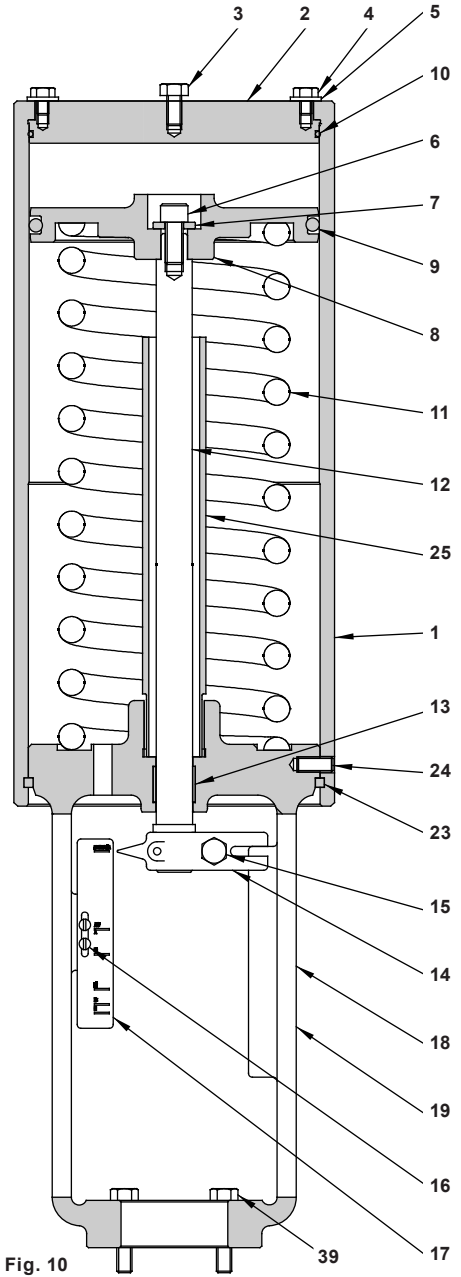

Fig. 10
- Insert the bushing guide (13) into the yoke (19).
- Apply graphite-based grease NEVER SEEZ PURE NICKEL SPECIAL on stroke limiter (25) threads.
- Screw the stroke limiter (25) into the yoke (19) until some mechanical resistance is felt and tighten with one hand using a short length of bar.
- Apply silicone-based grease LUMOMOLY TF-92 on stem (12) and insert into the yoke (19) from underneath.
- Introduce the spring (11) into the yoke (19).
- Apply silicone sealant DOW CORNING 732 at the end of the stem (12). See figure 10.
- Lock the stem (12) at the lower yoke end (19), with appropriate device.
- Apply graphite-based grease NEVER SEEZ PURE NICKEL SPECIAL on bolt (6) threads.
- Compress the spring (11) with the piston (8) using an appropriate device, until the stem top end is in the piston (8) far enough to be able to insert the washer (7) and screw in the bolt (6) and tighten applying the torque from Table 3.
- Apply silicone-based grease LUMOMOLY TF-92 and insert the O-ring (9) into the piston (8).
- Apply silicone-based grease LUMOMOLY TF-92 and insert the O-ring (10) into the cylinder cover (2).
- Insert the cylinder cover (2) into the cylinder (1).
- Apply graphite-based grease NEVER SEEZ PURE NICKEL SPECIAL on bolt (4) threads.
- Lock the cylinder cover (2) with bolts (4) and washers (5) and tighten applying the torque from table 3.
- Lubricate the cylinder (1) inside surface with silicone-based grease LUMOMOLY TF-92.
- Insert the cylinder (1) into the yoke (19). Ensure the large side hole in the cylinder and the threaded hole in the yoke are lined up.